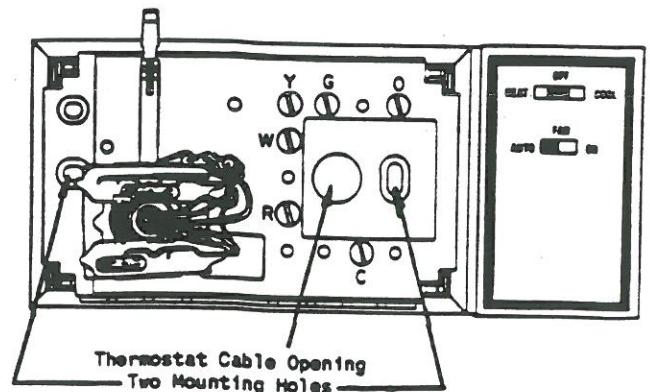

Fig. 2 Thermostat with Cover Removed
2. Run low voltage thermostat wires to the location and pull about 4 inches through the wall opening and lead through large opening in thermostat indicated in Fig. 2.
3. Fasten thermostat on wall or a horizontal outlet box using two elongated holes as indicated in Figure 2.